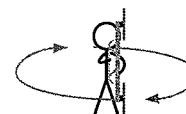

Fig.2
4. (Fig.2) Hold your Multi-rotor vertically and rotate it (its nose is downward) around the gravitational force